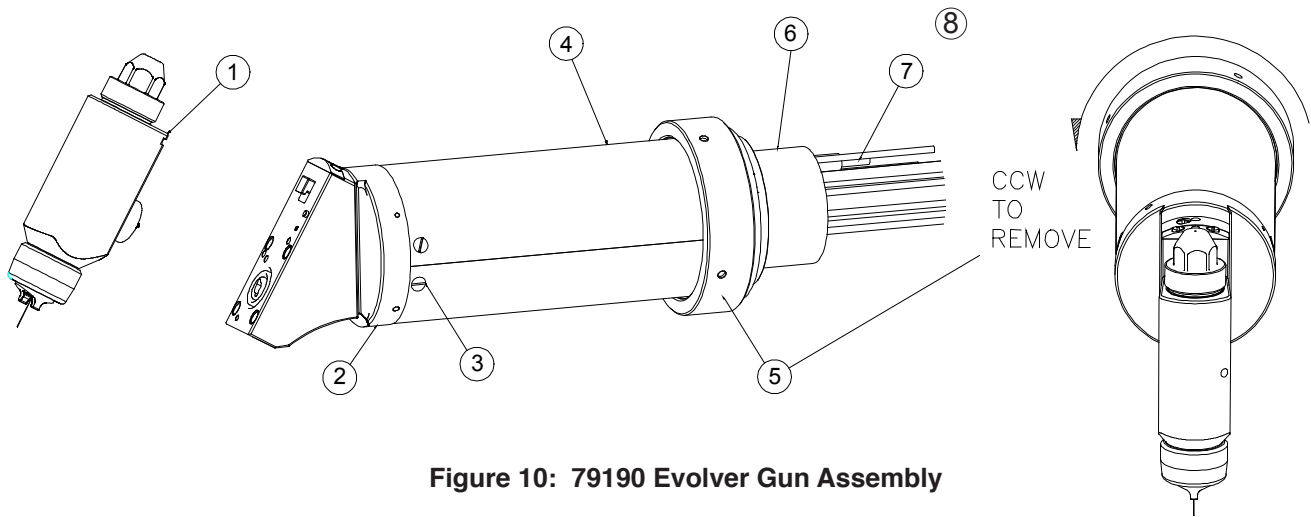

Figure 10: 79190 Evolver Gun Assembly
▶ At assembly, apply a small amount of dielectric grease to grooves in spray head and valve manifold to reduce high voltage breakdown. Excessive grease will not allow spray head [2] to seat fully against mounting block assembly [3] (see Figure 10).
REMOVING GUN FROM THE REAR MANIFOLD ASSEMBLY (See Figure 10)
3. Remove gun from robot by turning the retaining ring counter-clockwise from the manifold robot mounting plate (see Figure 10).
4. Remove spray head [1] as described previously (see Figure 10).
79190 EVOLVER GUN ASSEMBLY - PARTS LIST (Figure 10)
2. Loosen retaining ring [5] (see Figure 10) and remove applicator from robot wrist.